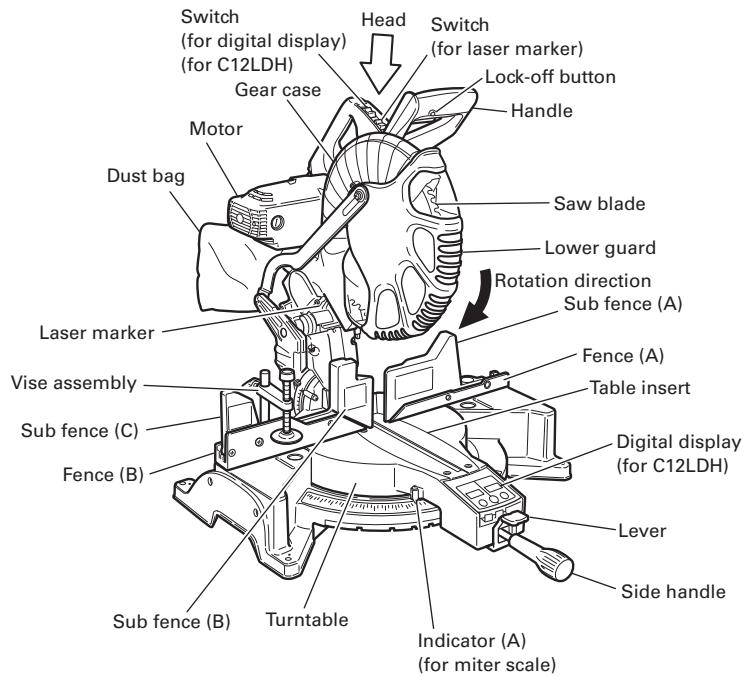
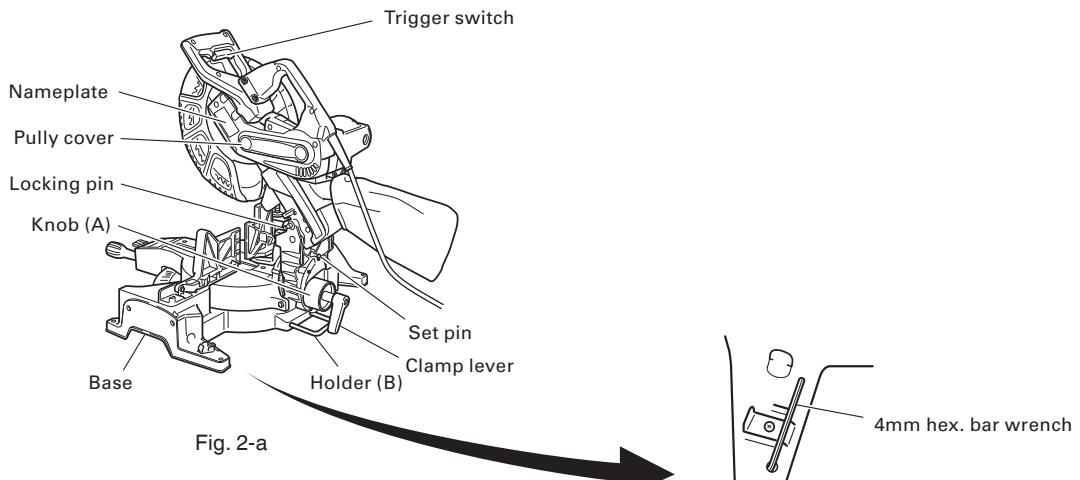

Fig. 1
Fig. 2-b
Attach the dust bag and vise assembly as indicated in Fig. 1 and Fig. 2.
**⚠ WARNING:** Please be aware of the reaction of the Motor Head (Fig.1) when the brake is activated. Braking causes the Motor Head to jerk downward and the user should be prepared for this reaction, especially when the trigger switch is released before the blade is completely down. Failure to be familiar with, and prepared for, the operational characteristics of the tool may cause serious injury.